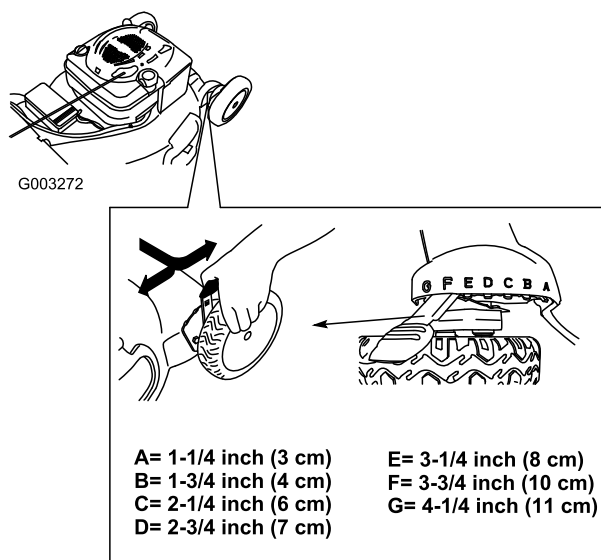

Figure 11
**Note:** To raise the machine, move all 4 cutting height levers forward; to lower the machine, move them all rearward (Figure 11).